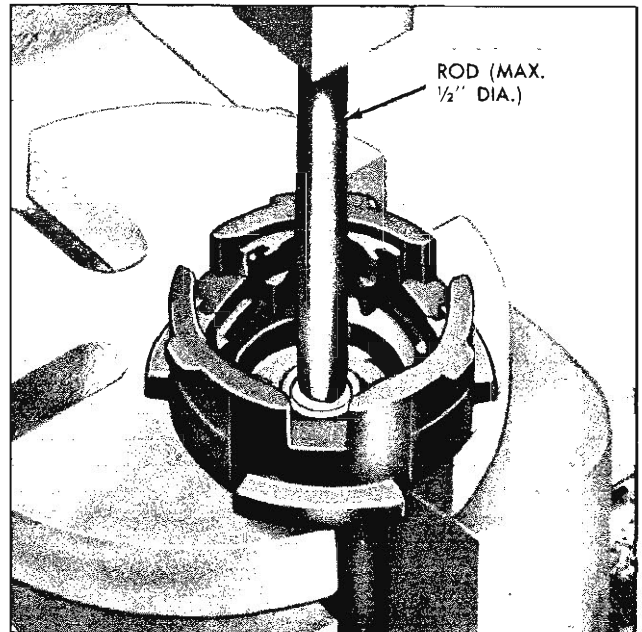

Fig. 30—Remove Air Valve Assembly from Power Piston
18. Place the power piston with tube down in an arbor press. Using a rod not exceeding $\frac{1}{2}$ " in diameter press the air valve assembly from the power piston. (Fig. 30)